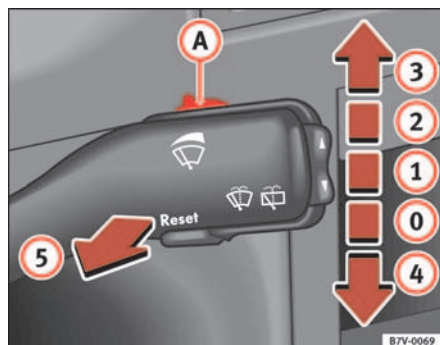

Fig. 80 Windscreen wiper and windscreen wash lever
The windscreen wiper lever ⇒ fig. 80 has the following positions:
The headlight washers are activated automatically when the windscreen washer is used and the windscreen wiper lever is pulled towards the steering wheel ⇒ page 116, fig. 80 ⑤ for at least 5 seconds – provided the dipped headlights or main beams are switched on. Clean off stubborn dirt (insects, etc.) from the headlights at regular intervals, for instance when filling the fuel tank.